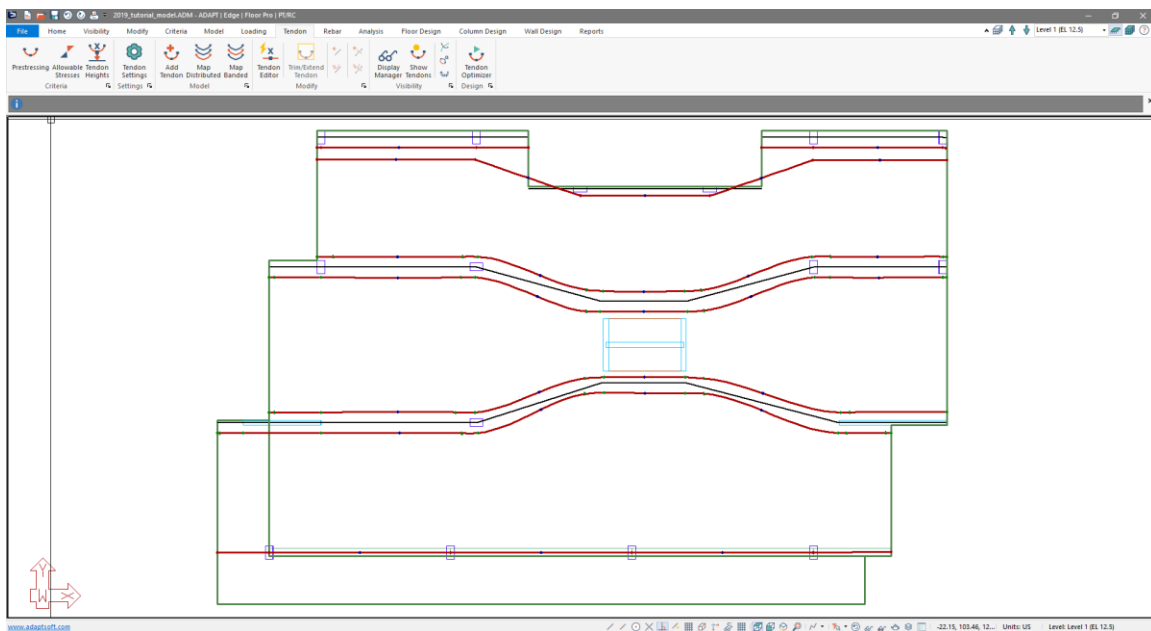

Figure 9-51
- At this point the users screen should be similar to the screen shown in **FIGURE 9-51**.